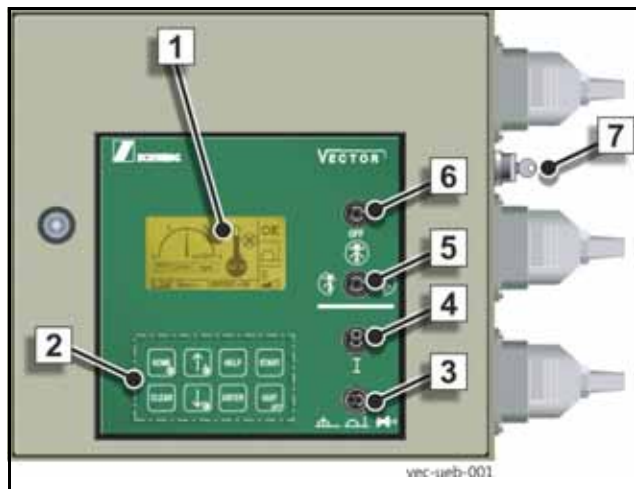

Fig. 215 VECTOR display
- Switch the key-operated switch (7) (**Fig. 215**) to position "I".
Caption (Fig. 215)